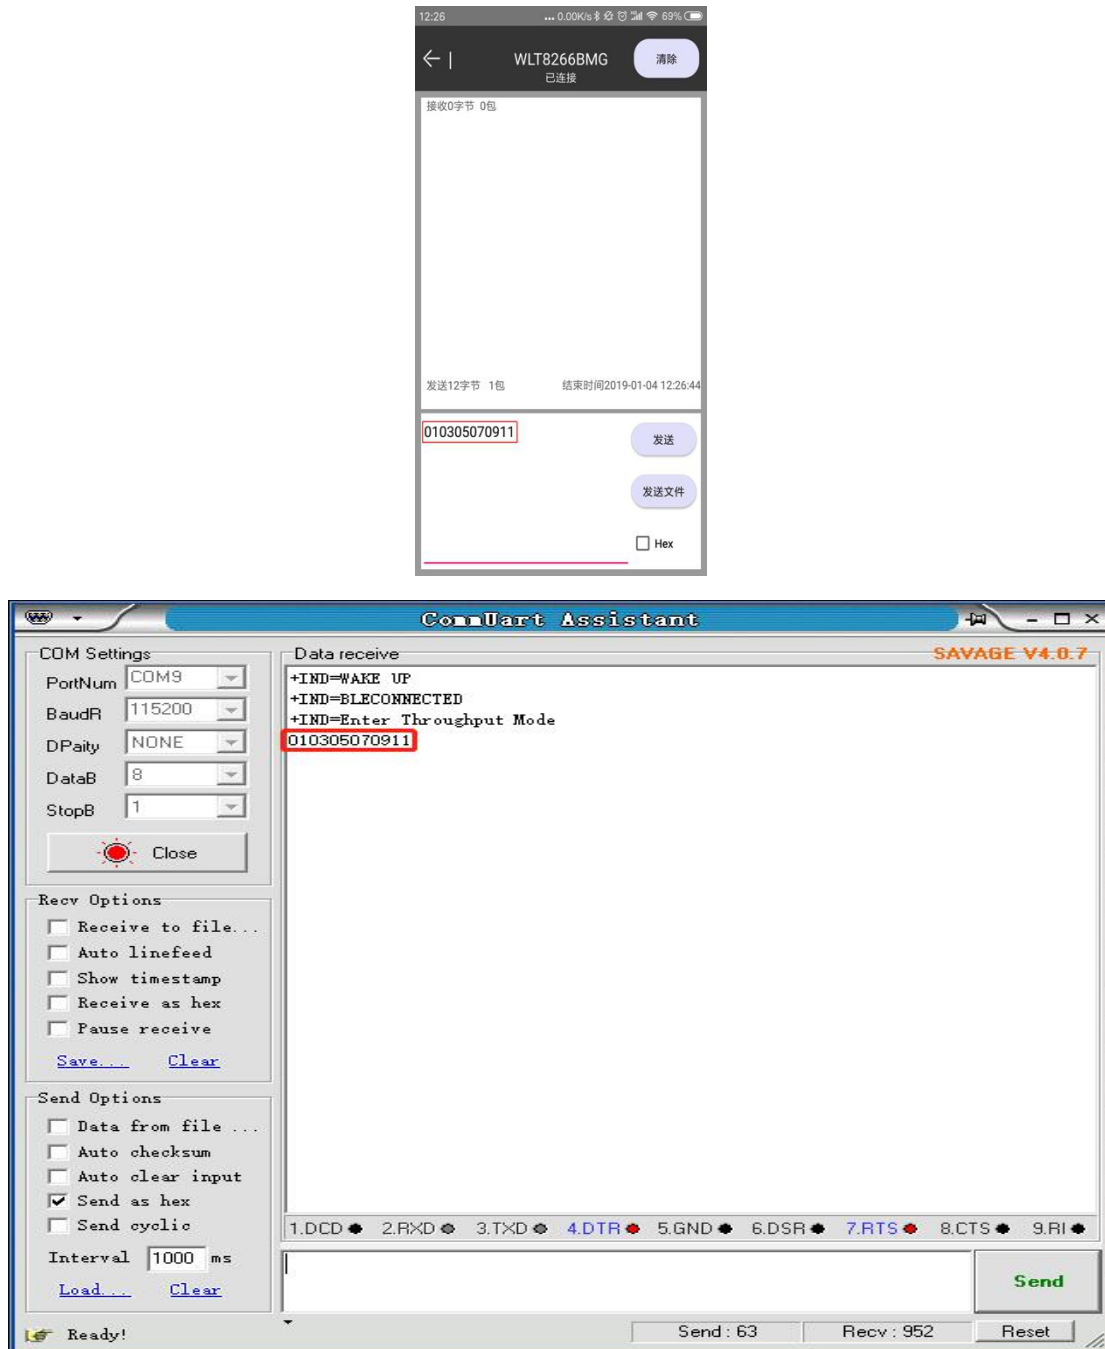

Figure 16.
2) **Send Mode**, as shown in Figure 16;